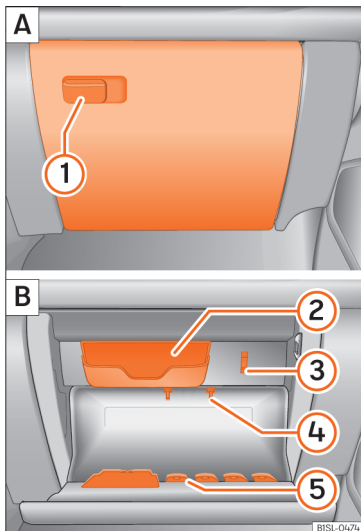

Fig. 124 Storage compartment with cover on the passenger side
Pull the lever to open »» Fig. 124 ①.